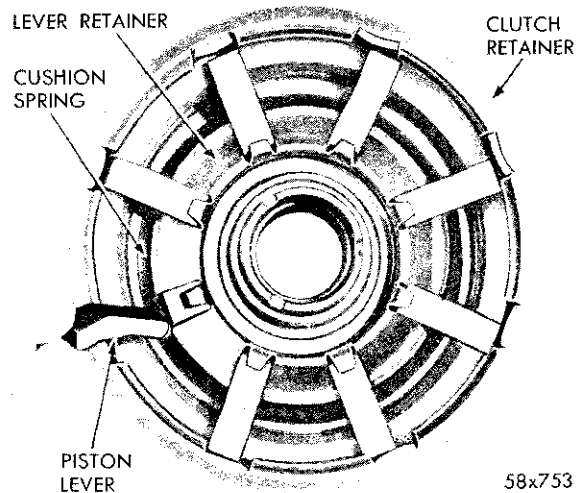

Fig. 75—Installing Piston Levers
(6) Place lever retainer (K) on piston hub and install levers (Fig. 75).
(7) Position the return spring (J), retainer (I) and snap ring (H) on retainer hub. Use Tool C-3575 to compress spring sufficiently to seat snap ring in